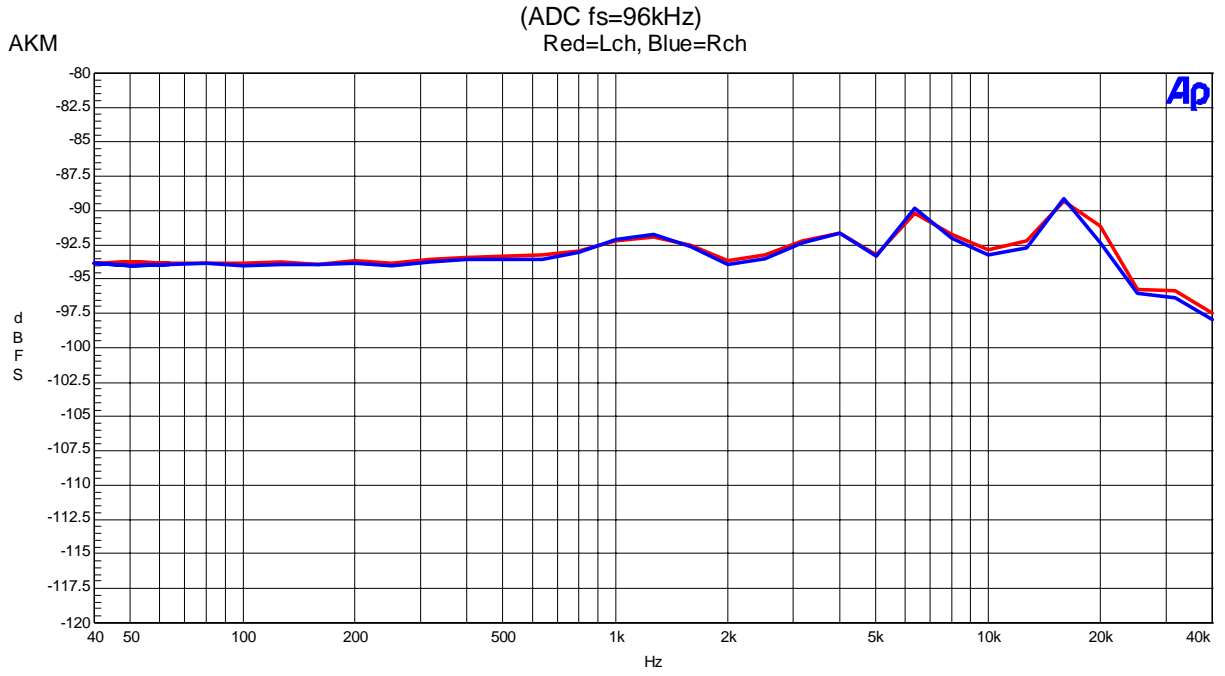

Figure 19 THD + N vs Input Frequency (Input Level=-0.5dBFS)
- Figure 19 THD+N vs fin (Input level=0dBFS)